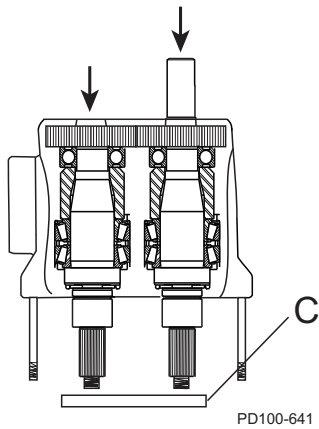

Figure 197 - Press Shafts from Gear Case
5. Place the gear case on an arbor press with the liquid end facing down. Protect the shaft ends with a wood or plastic block (Figure 197, item C) and press the shafts out of the gear case.